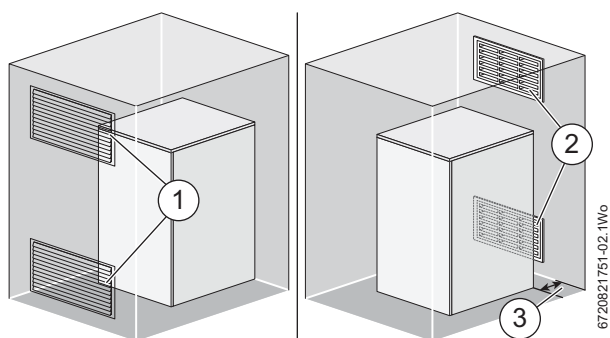

Fig. 20 Venting compartments
- ▶ If the appliance is to be installed in a confined space or compartment two air vents are required, one at high level and one at low level. The minimum free area of each vent is shown in figure 20 and depends whether the air is taken from another room or from outside the building.